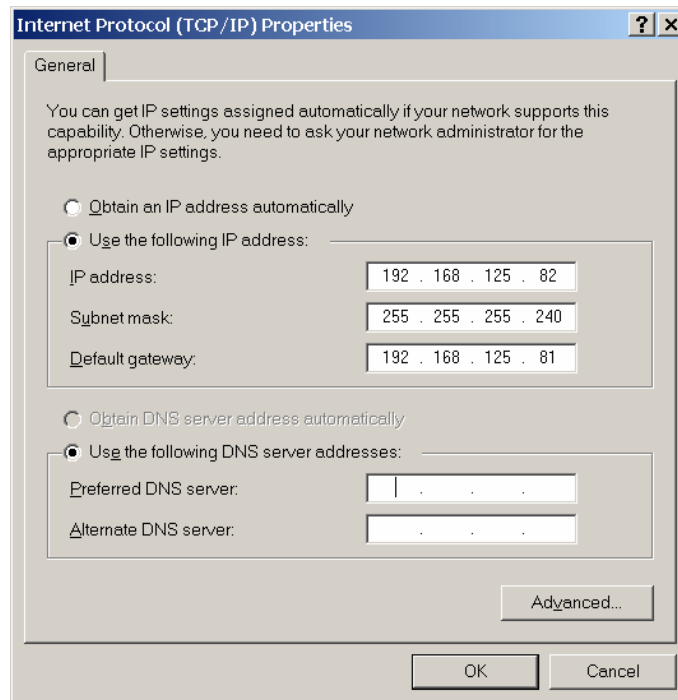

Figure 197: Configuration of PC IP-address when using the robot service channel.
- Option 1) Configure the Ethernet connection to the robot controller, see Figure 197. Connect to the robot with an FTP client (for example FileZilla)
When IRBCAM runs together with a stand-alone S4C+ or IRC5 system, an X-Ethernet cable and the service channel is one convenient way of transferring the CAM files. Figure 197 shows the required IP configuration on the PC running IRBCAM when connected to the service channel on an S4C+ system. The settings are the same for IRC5, except that the subnet mask should be set to 255.255.255.0.